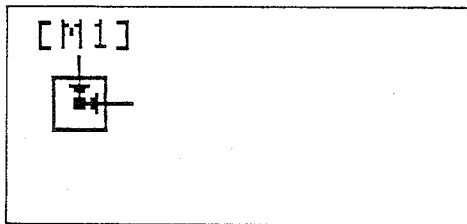

Fig. 2 Independent machine head operation screen (1)
- 2) Press the  key to make the machine enter the run state. (Fig. 2)